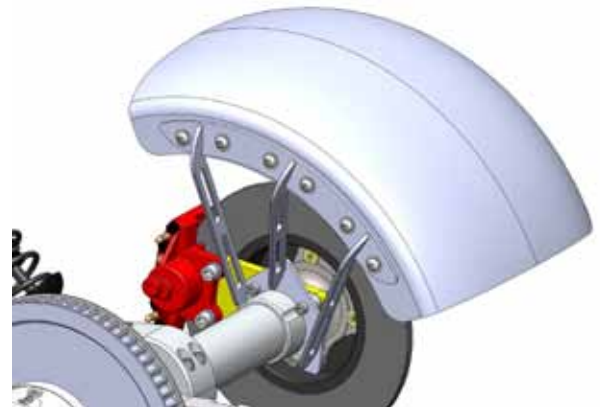

Figure 14
- b. Attach fenders to brackets using the supplied hardware. Torque to 17 lb. ft. Figure 14 and 15